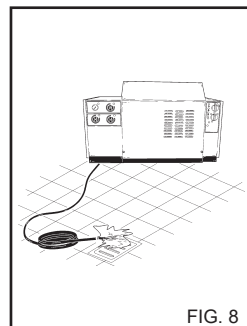

FIG. 8
Impurities could block the nozzle and cause malfunction (Fig. 8).
4) After using with detergent, flush out the intake circuit; place the detergent suction hose (fig. 8) in a tank of clean water and let the pump run for 1 minute with the dosing tap turned fully on and the lance in detergent delivery condition.